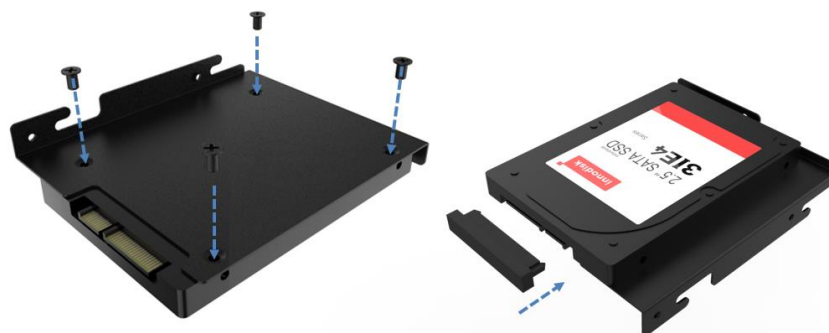

Figure 3-4: HDD Installation
- Step 2:** Plug in the hard drive cable, and install the HDD bracket back into the DRPC-243-MTL (pay attention to the positioning stud) using 3 screws (**Figure 3-4**).